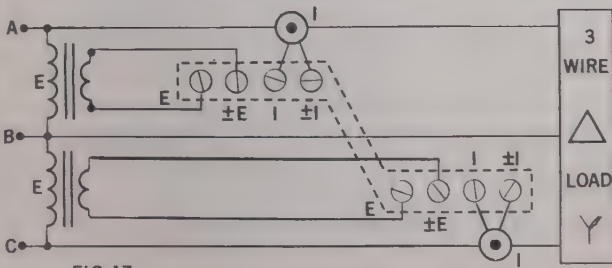

FIG. 17
To extend ranges in the Model 2164A series (3 phase, 3 wire) watt-recorder, use potential (E) and current (I) transformers as shown in Figure 17. Other 2164 models are wired in the same way, with the potential leads to both "E" terminals and leads from the current transformer connected to the "I" terminals.